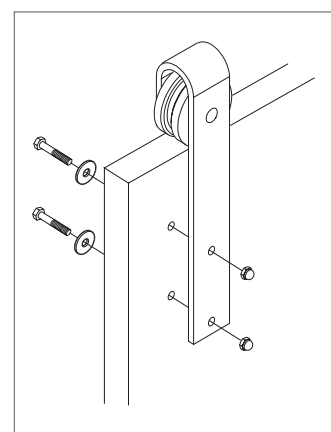

Figure 6
9. Install the hangers to the front of the door using lag bolts, washers, and acorn nuts (provided) (figure 6).
10. Hang the door (Figure 6).